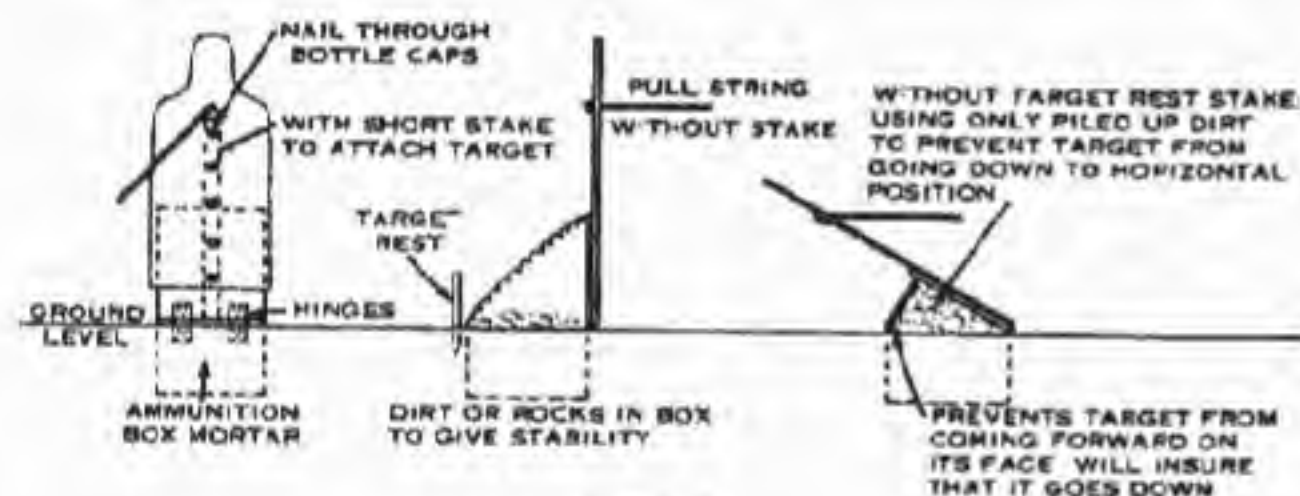

Figure 10
c. Front Pull Pop-up Target (Figure 10)
(1) Advantages: